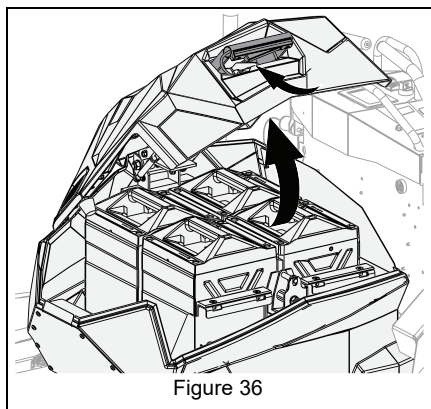

Figure 36
2. Open hood assembly. See Figure 36.